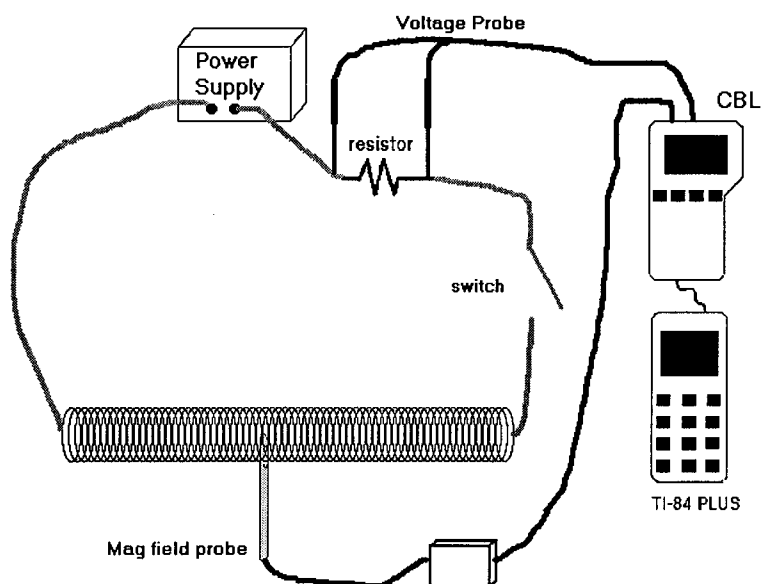

Figure 1
2. Set up the circuit and equipment as shown in Figure 1. Connect the TI Voltage Probe across the resistor, with the positive (red) lead on the side of the resistor connecting to the positive side of the power supply. Wires with clips on the end should be used to connect to the Slinky™.
For the second part of the experiment, you will determine the relationship between the magnetic field in the center of a coil and the number of turns of wire per meter of the solenoid. You will keep the current constant. Leave the Slinky set up as shown in Figure 1. Position the sensor as it was before, so that it measures the field down the middle of the solenoid. You will be changing the length of the Slinky from 1.0 to 2.0 m to change the number of turns per meter.